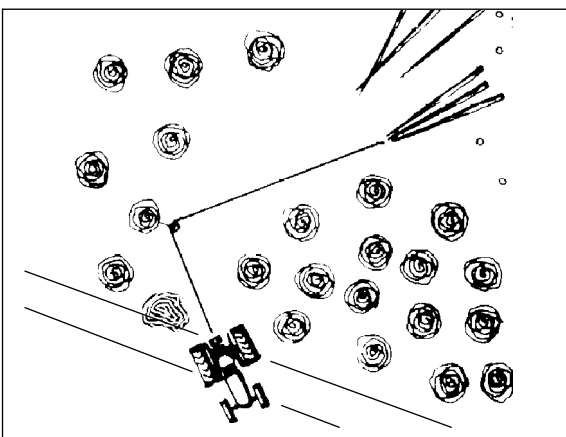

Fig. 7. Use a snatchblock to avoid winching sideways.
1. Choose a horizontal, hard based skidding route for the tractor. Avoid steep slopes, especially when winching from the side. Check that the winching trail is clear and that the tractor's parking brake is on. Do not run the tractor at a high idle when winching. Maximum PTO speed is 540 rpm. Ensure that the logs can be drawn freely. Be especially careful when working on slopes. Avoid winching sideways at angles exceeding 30 degrees. Use snatchblock which is fastened to the tree if needed. (See fig. 7.)